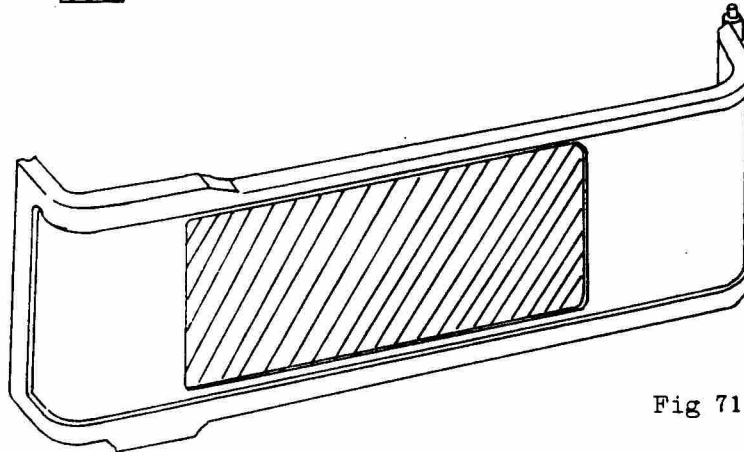

Fig 71
### (1) The Modified Back Cover (Fig 71)